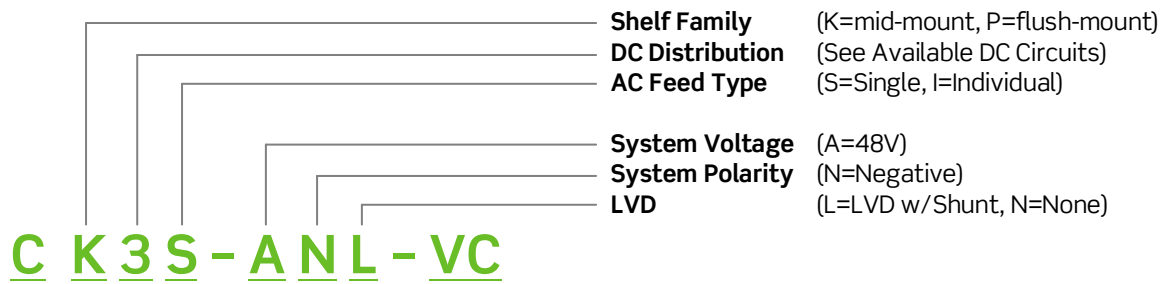

Figure 6 - Compact Shelf Model Number Decoder
All circuits are available with an option for a low-voltage disconnect (LVD) contactor and a shunt. The last character in the second part of the model number (see Figure 6) indicates whether the system has a shunt and LVD (L) or not (N).